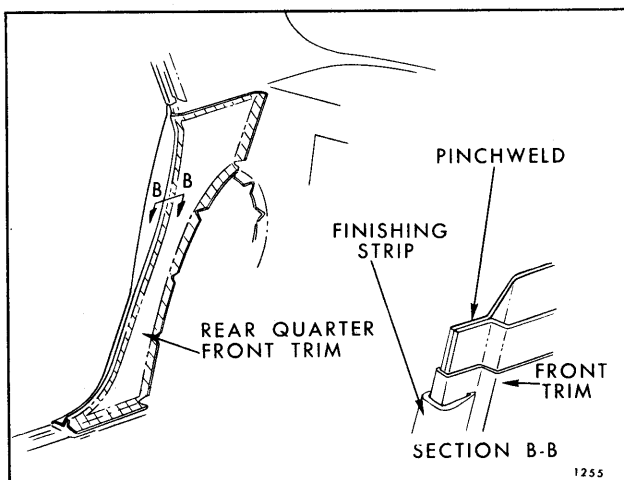

Fig. 14-27—Rear Quarter Trim Assembly - "A" Four - Door Styles
5. On "A" and "X" Styles, carefully break cement bond securing leading edge of trim to lock pillar pinchweld flange (Figs. 14-27 and 14-28).